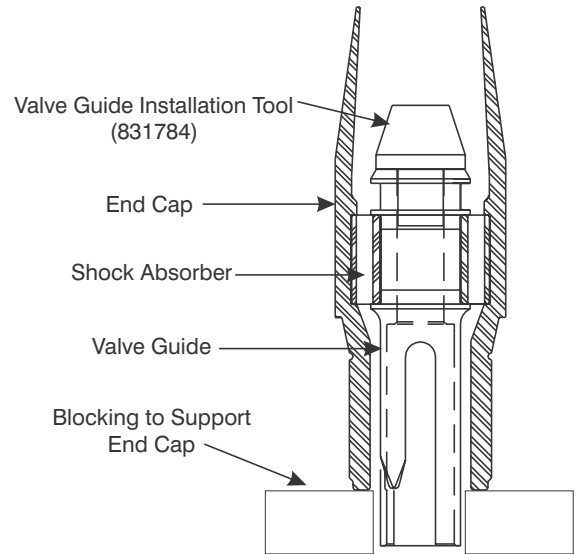
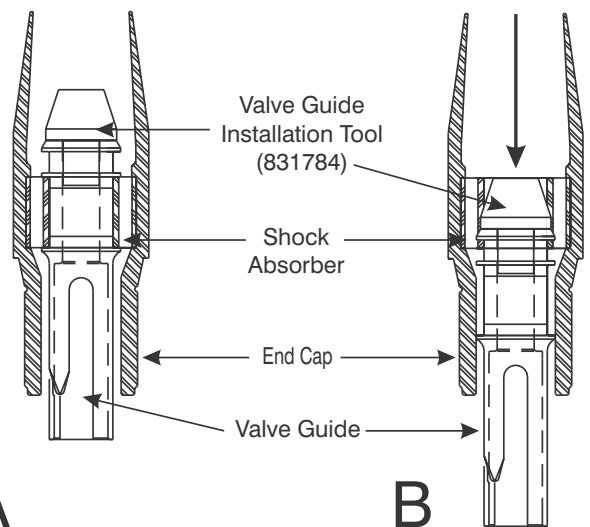

Figure 8-19. Insert Valve Guide Tool in the Valve Guide.
Figure 8-20. Press Valve Guide from the Shock Absorber.
2. With threaded end down, place the End Cap in the arbor press as shown in Figure 8-19.
- Support the edges of the End Cap (16) with standard blocking.
3. Insert the Valve Guide Installation Tool 831784 in the Valve Guide as shown in Figure 8-20-A.
4. Press the Valve Guide from the Shock Absorber as shown in Figure 8-20-B.